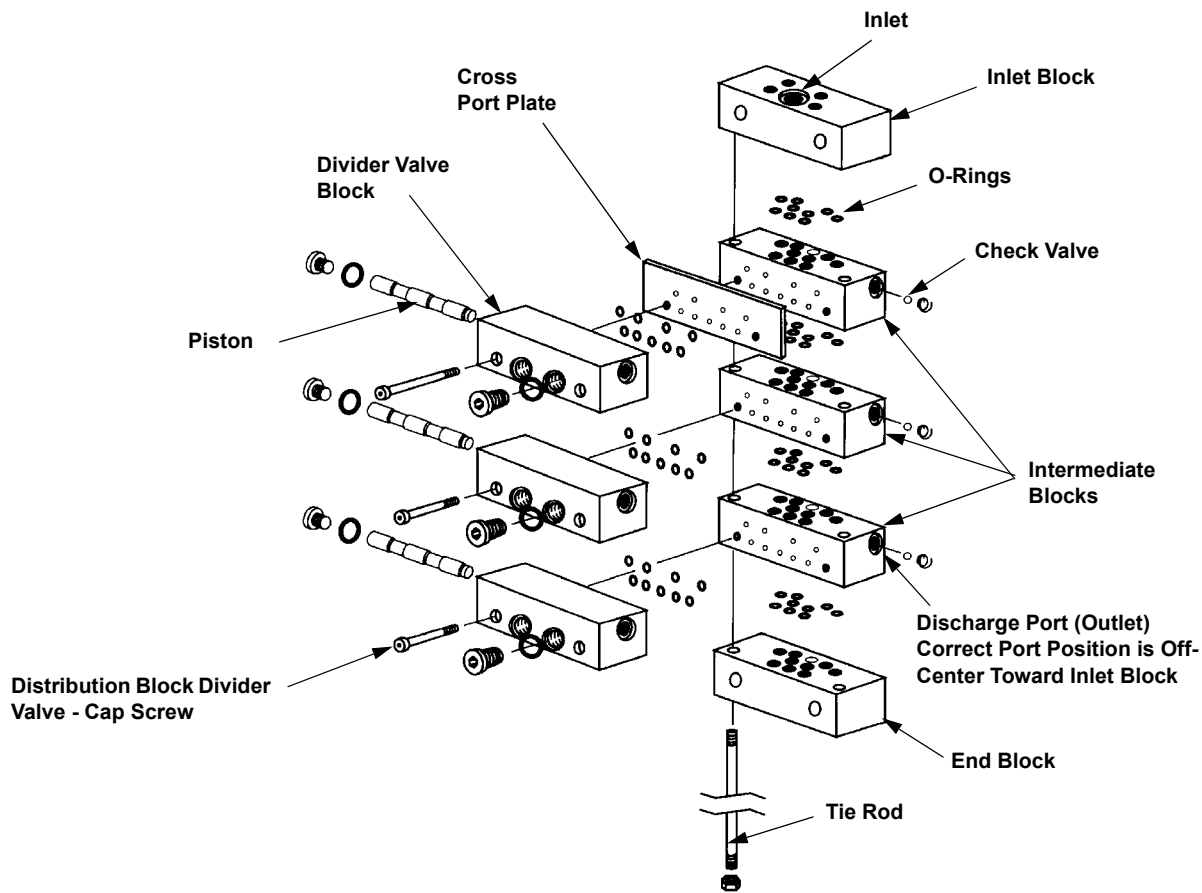

FIGURE 4-12: DIVIDER VALVES DISTRIBUTION BLOCK - TYPICAL
1. Screw three tie rods into inlet block until ends are flush with surface of block. Reference Figure 4-12: on page 4-30.